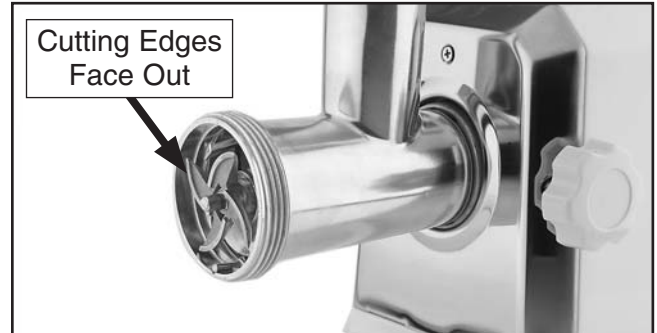

Figure 7. Grinding blade installed.
5. Slide the grinding blade onto the end of the auger so the flat cutting edges of the blades face outward, as shown in **Figure 7**.